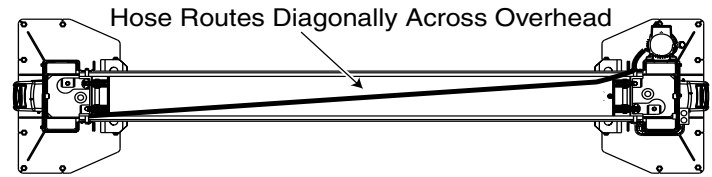
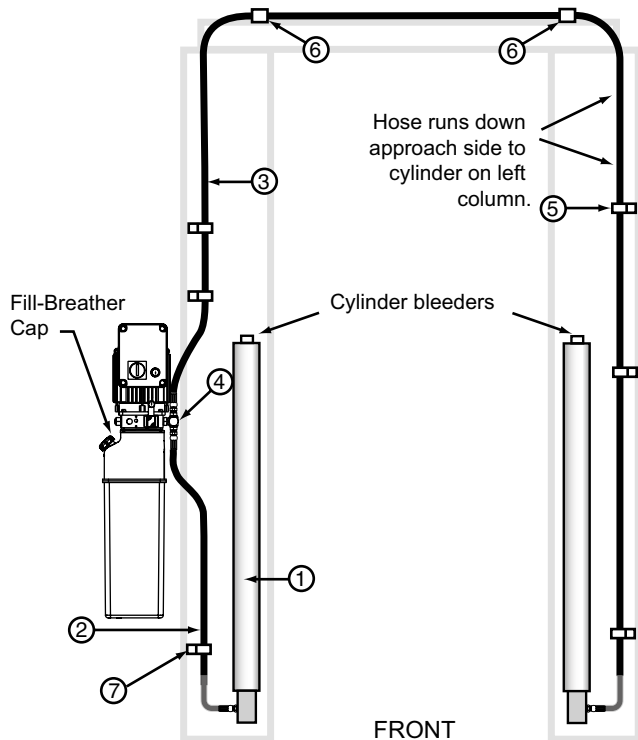

Abb. 12a
Abb. 12
1. Install item (2) with hose clamps, on power unit column side connecting it to the cylinder (1) first.
2. Install item (3) with hose clamps starting at left column cylinder (5) and working toward the right column. All excess hose should be at bends & inside overhead assembly.
3. Install item (4) into power unit.
4. Connect item (2) & item (3) to Tee (4).
**NOTE:** Route Power Unit hose inside columns using slots provided at column base, Fig. 12. Route Overhead Hose in column channel on outside of column, Fig. 12. Overhead hose goes over top end of overhead assembly, Fig. 12 and Fig. 12a.
- E) Attach air cylinder clevis to latch control plate with clevis pin and retaining rings, Fig. 12. Attach bottom of air cylinder to air cylinder bracket with 1/4" x 1-3/4" HHCS and nylon nut, Fig. 18. Repeat procedure for other locking latch.